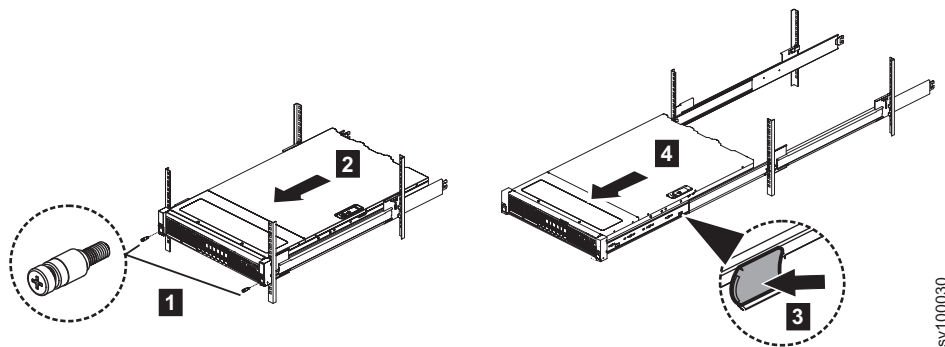

Figure 3. Sliding the node out of the rack and removing the front screws
2. Optional: Remove the front screws and slide the node out of the rack, as shown in Figure 3.